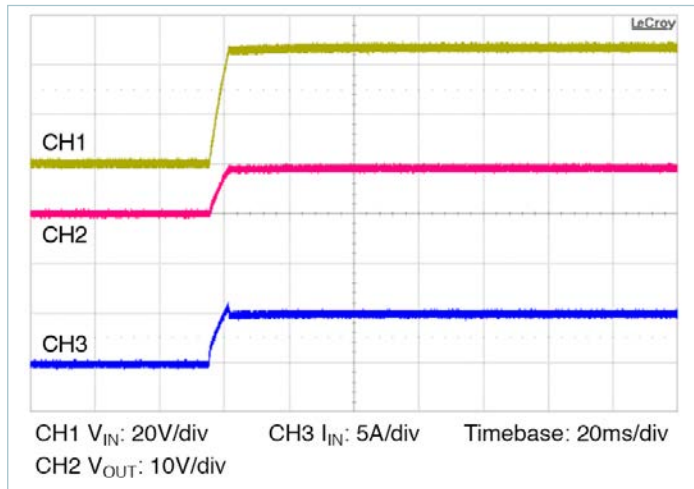

Figure 13 — Start up from application of V_{IN} ; V_C pre-applied $C_{OUT} = 1600\mu\text{F}$
- **Normal operation (VC applied prior to V_{IN}):** In this case the controller is active prior to ramping the input. When the input voltage is applied, the VTM module output voltage will track the input (See Figure 13). The inrush current is determined by the input voltage rate of rise and output capacitance. If the VC voltage is removed prior to the input reaching 26V, the VTM may shut down.